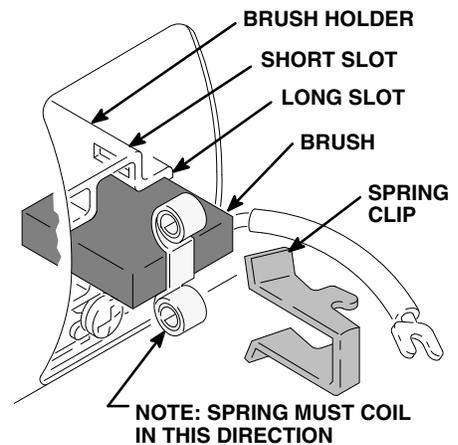

Fig. 14
6. Install a new brush so the lead is in the long slot of the holder. See Fig. 14.
8. Place the spring on the brush as shown in Fig. 14.
9. Install the spring clip and push it down to hook the short slots in the housing. See Fig. 14.